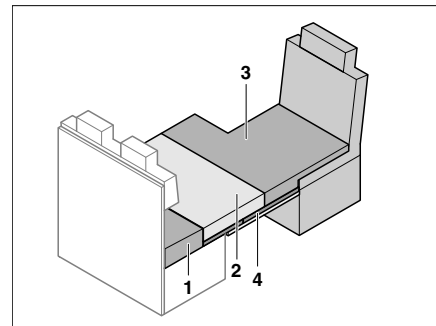

Fig. 193 After conversion
- Lay the additional cushion (Fig. 193,3) on the driver's seat.
- Lay the seat cushion (Fig. 193,2) on the guest bed foundation.
- Lay the back cushion (Fig. 193,1) between the seat cushion and the rear wall. Observe the wedged form.